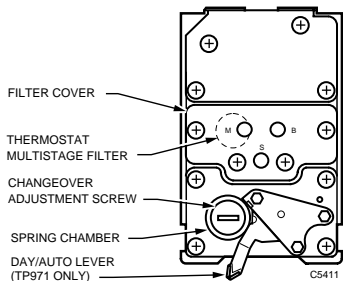

Fig. 9. TP970 Series Thermostat—Back View.
On some systems the lower main air pressure is higher (14 or 15 psi [97 or 103 kPa]) so the changeover point must be raised. On these systems, turn the changeover adjustment screw (Fig. 9) one-half turn clockwise for each 1 psi (7 kPa) over 13 psi (90 kPa).
2. Remove changeover adjustment screw (Fig. 9) from thermostat back.